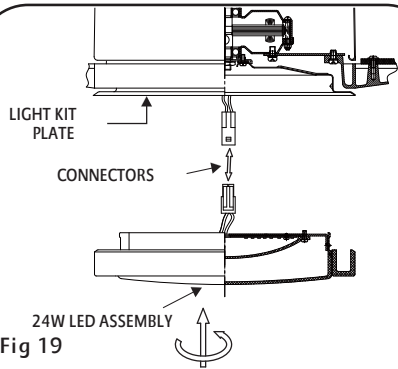

Fig 19
Step 1. While holding the 24W LED assembly under your fan, firmly snap the wire connection plugs together. (FIG. 19)
Step 2. Attach the 24W LED assembly to the light kit plate by twisting tightly. (FIG. 19)